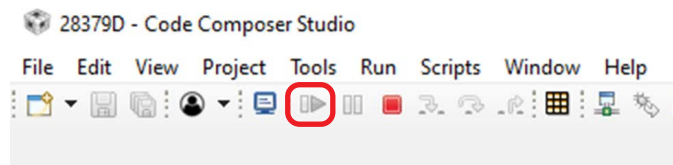

Figure 11: Run Code
8. **After the .out file is loaded,** the circled button below will turn green. Once green, **click on it to run the code.** (Figure 11).